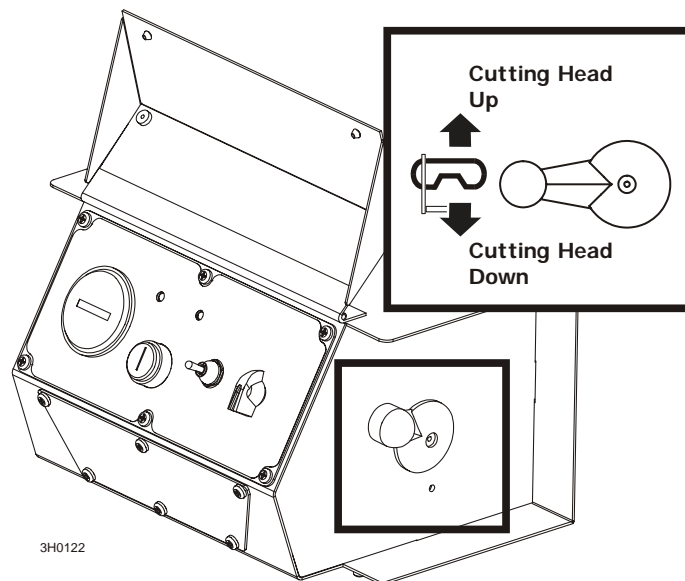

FIG. 2-8
**See Figure 2-8.** The up/down switch is located on the far right side of the control panel. Push the switch up to raise the cutting head; push the switch down to lower the cutting head. Hold the switch in position until the cutting head reaches the desired height, then release.